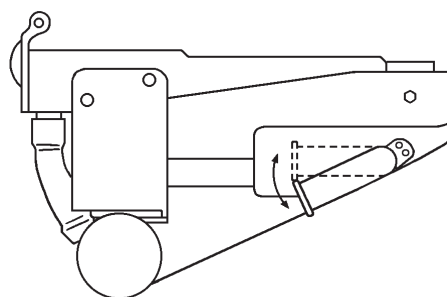

Fig. 5
- 5) Remove the screw and then move the water tank drain pipe to the drain position. See Fig. 5. Use the screw to secure the water tank drain pipe in the drain position.
- 20) Remove the screw and then move the water tank drain pipe to the normal position. See Fig. 5. Use the screw to secure the water tank drain pipe in the normal position.
- 3) Remove the screw and then move the tank drain pipe to the drain position. See Fig. 5.
10) Move the tank drain pipe to the normal position and then secure it with the screw. See Fig. 5.